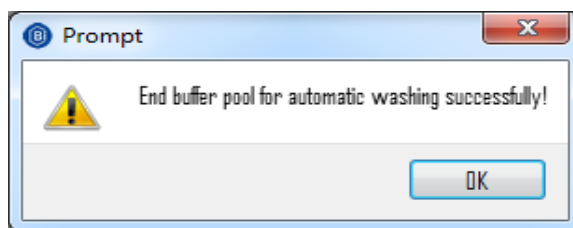

Figure. 8.7.23 Stop buffer pool fill-up
- Select **Stop buffer pool fill-up** and click **Execute**. A dialog box will pop up, as shown in Figure 8.7.23.